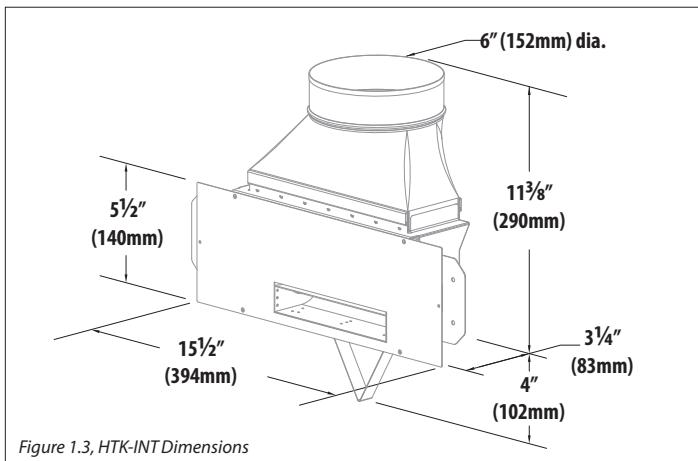

Figure 1.3, HTK-INT Dimensions
- Figure 1.3 shows the dimension of the air discharge box with the boot attached.